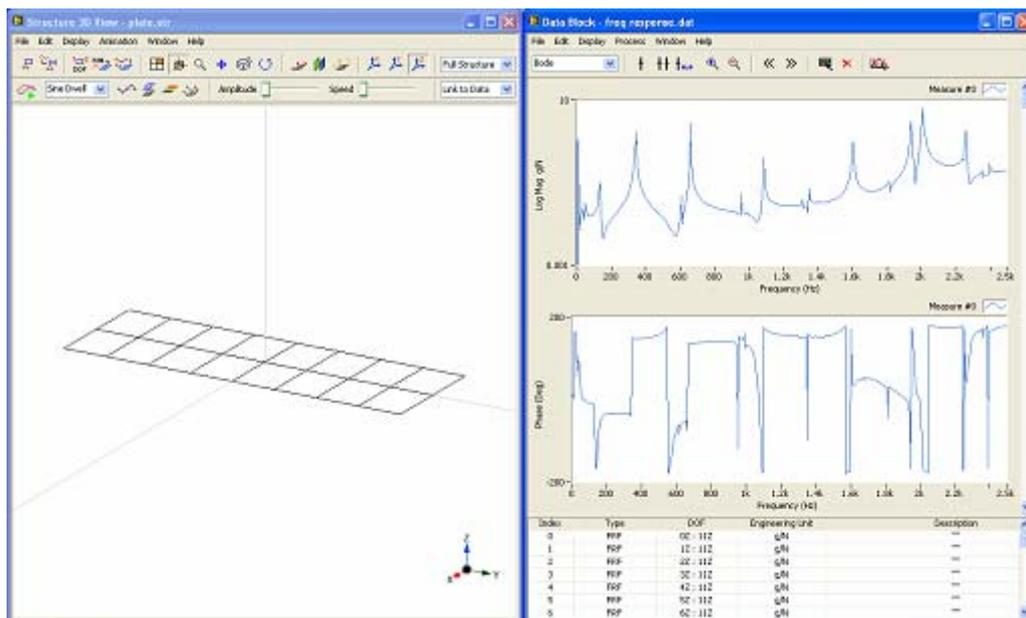

Figure 4-5 Frequency ODS animation
- Execute menu **File | Load...** in the data viewer window, and load **freq response** in the data block file list. The FRF with 38 measurements are displayed in the window, as Figure 4-5 shows.